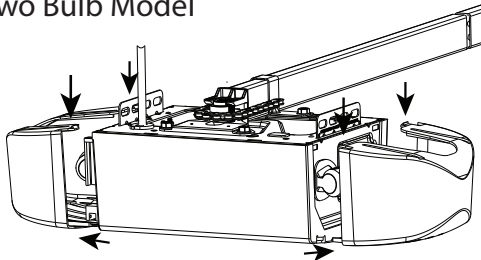

FIG. 2.
4. Remove lens cover(s) by pressing top tabs down and slide lens cover(s) out. Remove light bulbs. FIG. 2.